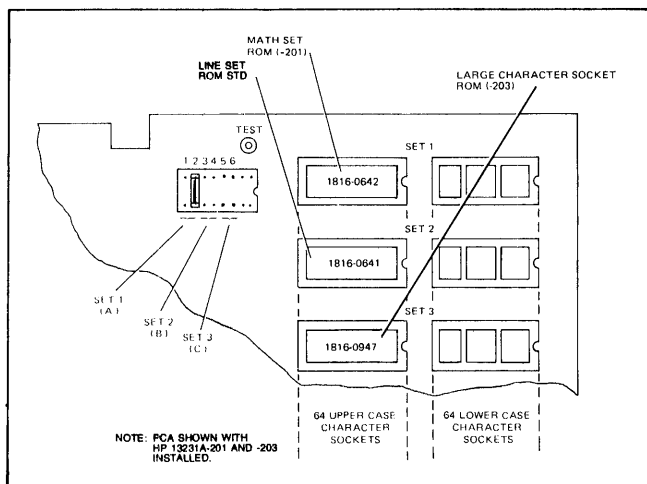

Figure 7-6. Display Enhancement PCA Jumper and ROM Socket Locations
- ( ) Using figure 7-6 and table 7-1 as a guide, check that Display Enhancement PCA jumpers are arranged correctly for the ROM character set configuration. If there are no alternate character set ROM's installed (HP 13231A), all jumpers should be in the jumper socket.
4. ( ) When connected to the Display Enhancement PCA, the PROM Character PCA character sets 1 and 2 replace the Display Enhancement PCA character sets 1 and 2 respectively. If an alternate set(s) is to be replaced, first determine if the user generated PROM set(s) is alphanumeric or microvector. Then, using table 7-1 and figure 7-6 as a guide, correctly arrange Display Enhancement PCA jumpers 2 and 4 for the PROM character set type(s). (Jumpers 1 and 3 can either be removed or left installed.)